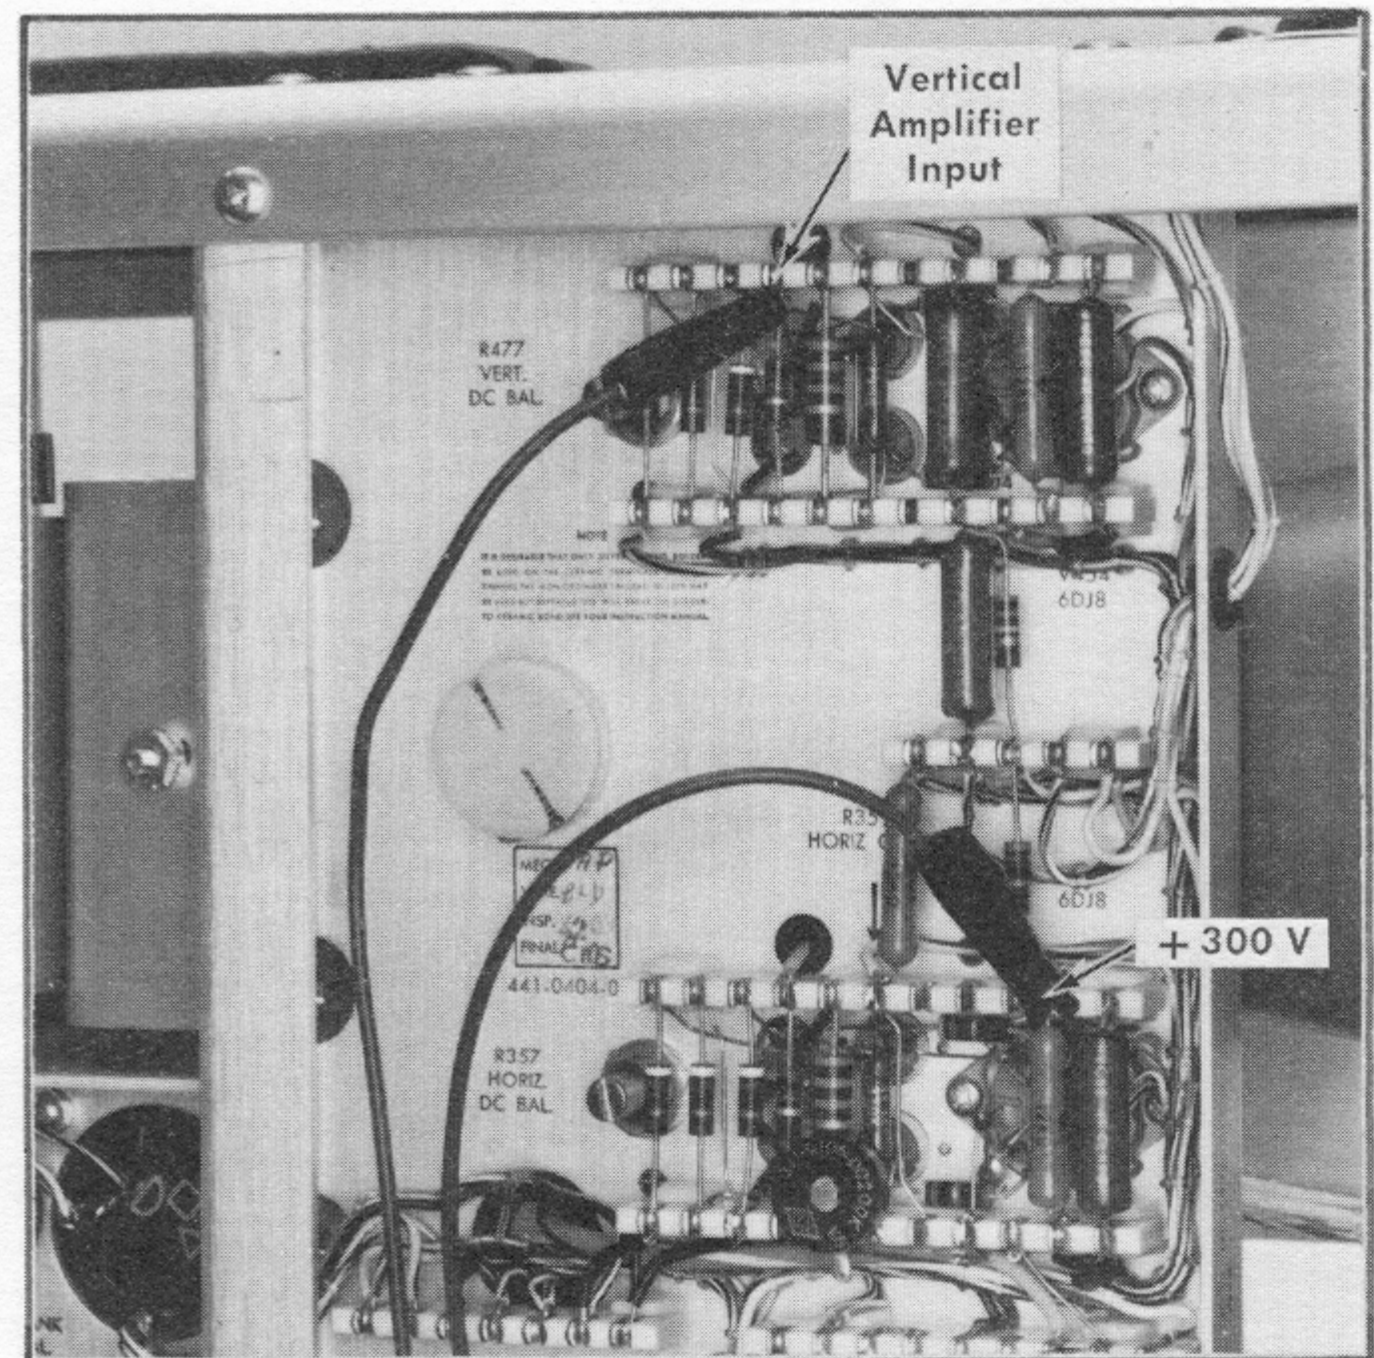

Fig. 6-9. $2\text{ M}\Omega$ resistor between vertical amplifier input and $+300\text{ V}$ supply, step 12.
amplifier input (See Fig. 6-9). The spot should move alternately from 3 cm below to 3 cm above the center line, within ± 2 mm.
12. Adjust Vertical DC Balance ①
a. Connect a $1.5\text{ k}\Omega$, 1% resistor between the vertical amplifier input and ground. See Fig. 6-9. (This establishes the correct input resistance, as if the vertical plug-in unit were in place.)
13. Adjust Horizontal Gain ①